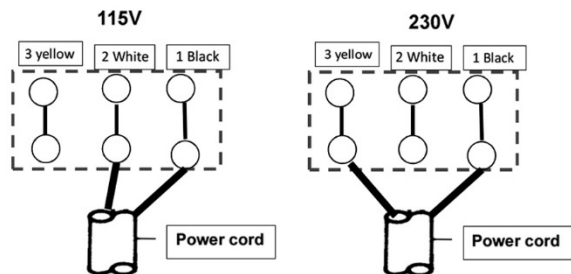

Figure 7-3: coolant pump wiring
2. Remove pump motor junction box cover, and change incoming leads for coolant pump, based on diagram shown in Figure 7-3. Reinstall cover.